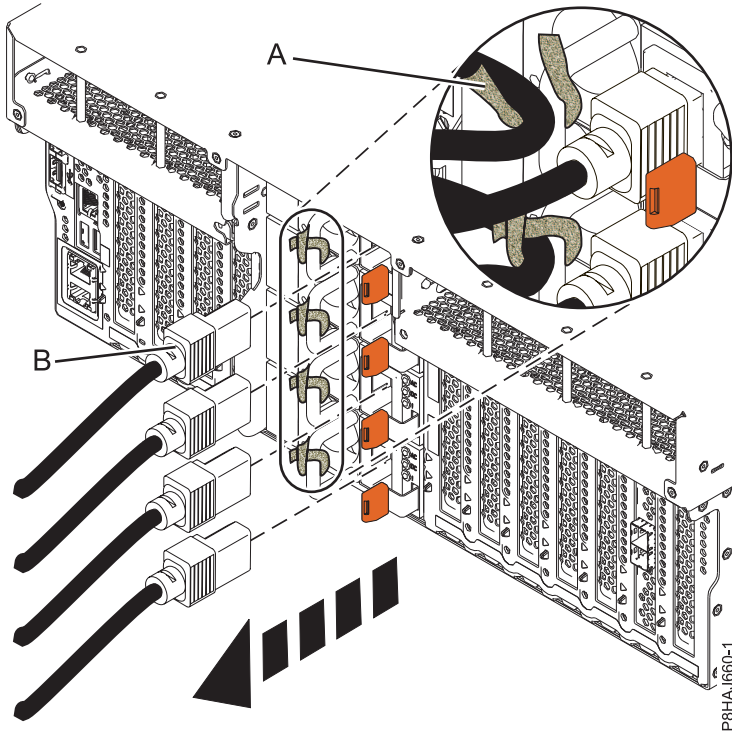
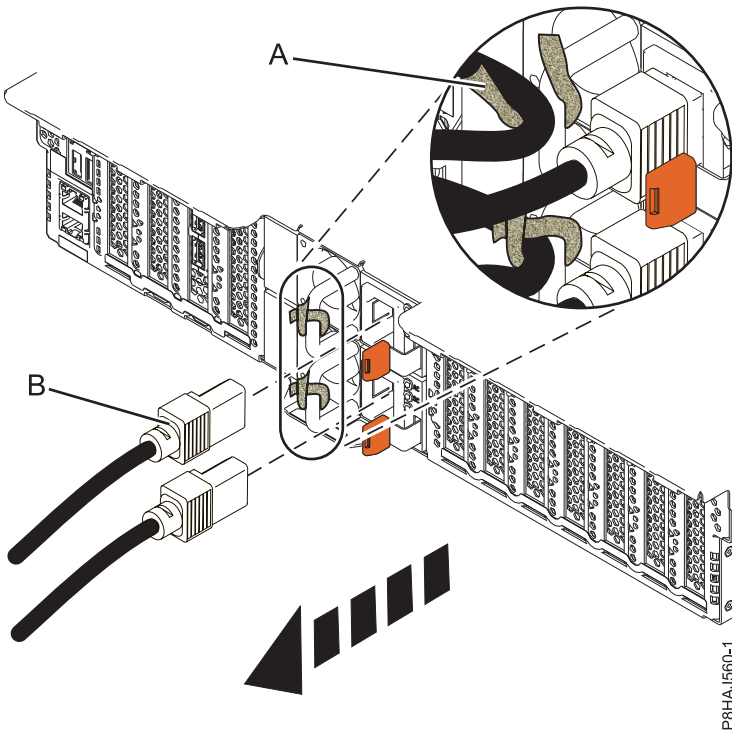
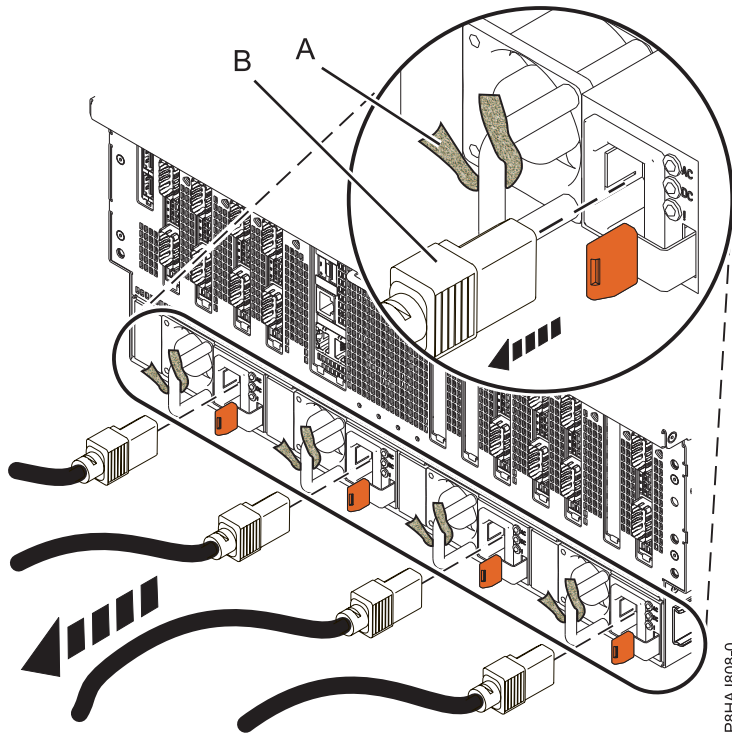

Figure 28. Removing the power cords from an 8247-42L, 8286-41A, or 8286-42A system
Figure 29. Removing the power cords from an 5148-21L, 5148-22L, 8247-21L, 8247-22L, 8284-21A, or 8284-22A system
Figure 30. Removing the power cords from an 8408-44E or 8408-E8E system
3. Disconnect the power cords (**B**) from the system unit. See Figure 28 on page 40, Figure 29 on page 40, or Figure 30 on page 41 or depending on the type of your system.